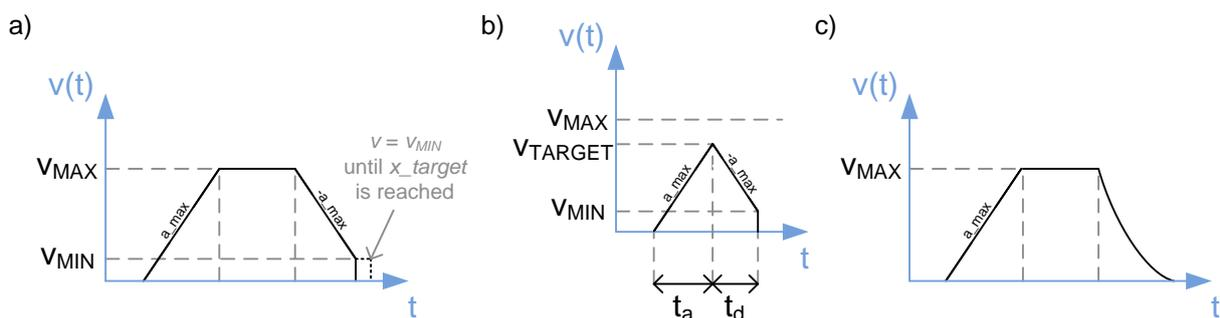

Figure 4 Velocity ramps of TMC429:
A minimum velocity value v_{min} could be set. If the current velocity is equal or smaller than this value during deceleration phase of the motion profile, the velocity could be stop abruptly if the target position is reached (see Figure 4 a), b)). This allows a faster positioning because the stepper motor is not slowed down this value until the x_{target} is reached. To ensure exact positioning, v_{min} should be greater than 1.
Due to the permanent calculation of v_{target} during positioning mode (*RAMP_MODE*, *SOFT_MODE*) deceleration phase could be started before maximum velocity is reached. As a result, a triangular motion profile is generated (see Figure 4 b)) fulfilling following equation which is a variation of (1):
Finally, an exponentially shaped velocity profile during deceleration could be achieved to reduce system resonances if the *SOFT_MODE* is chosen (see Figure 4 c)). This part is similar to a S-shaped velocity ramp.